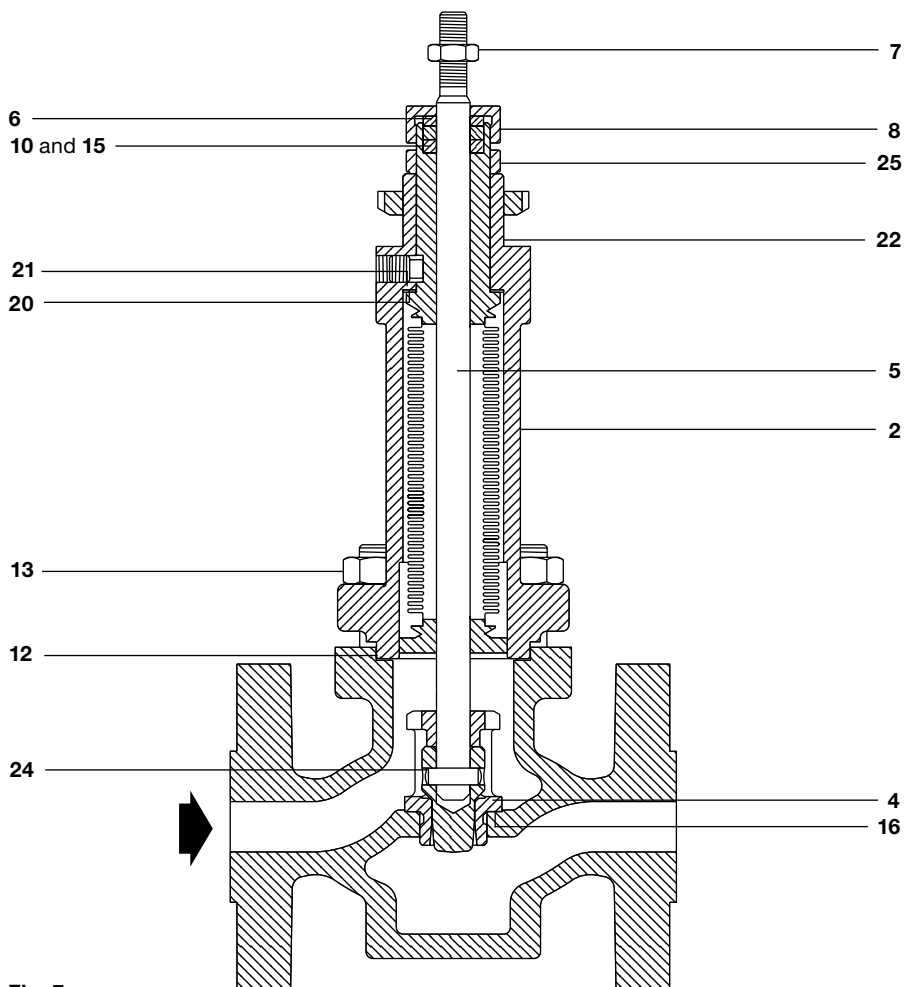

Fig. 7
4.7 Procedure for renewing the valve plug, seat and bellows assembly (Figure 7)
- Remove the lock-nut (7).
- Unscrew the nuts (13) securing the bonnet.
- Withdraw the bonnet (2) together with the plug stem/bellows assembly (5). Remove the gland nut (8), gland nut gasket (6) and the stem seal set (10 + 15) see Figure 7. Unscrew the plug/stem/bellows assembly lock-nut (25) and anti-rotation screw (22) withdraw the assembly from the bonnet.
- Unscrew and remove the valve seat (4).